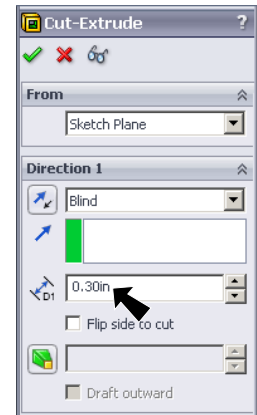

Fig. 21
Step 12. In the Property Manager set: under Direction 1, **Fig. 21**